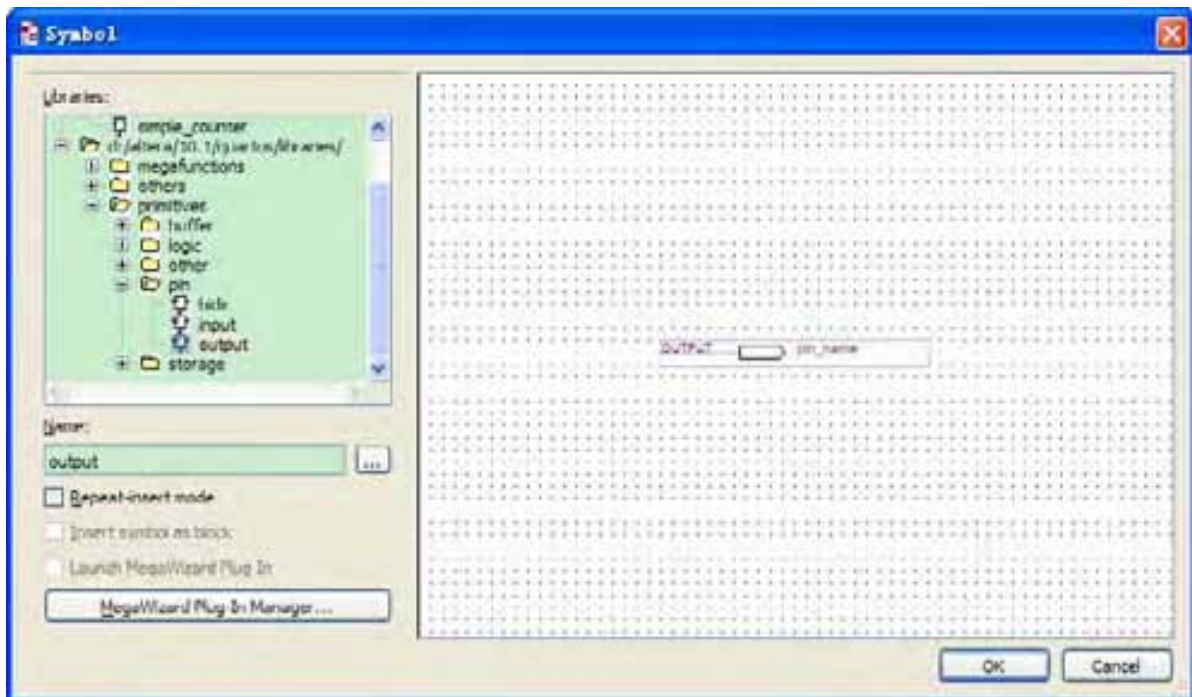

Figure 6-38 Choose output pin
17. Under Libraries, select quartus/libraries > primitives > pin > output, as shown in **Figure 6-38**.